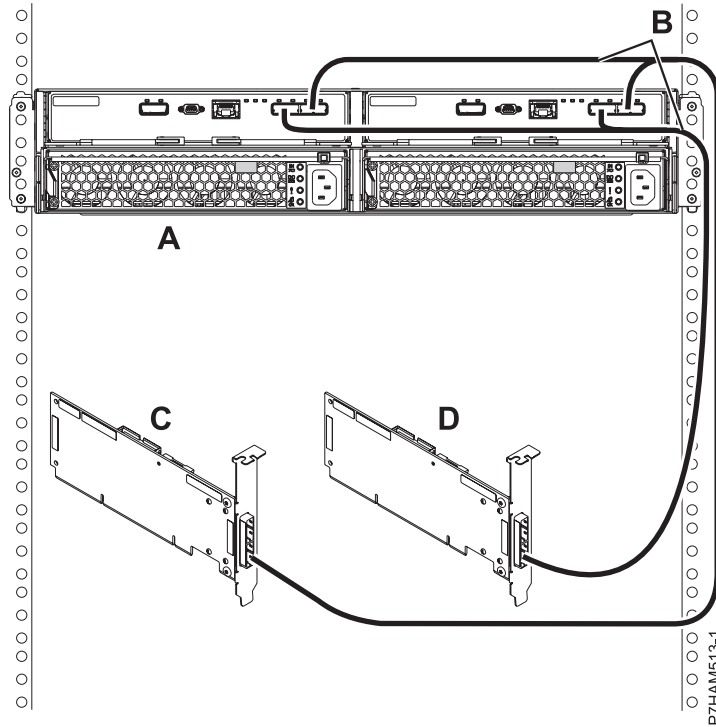

Figure 41. Mode 2 connection of one 58/87 disk drive enclosure by using YO cables to two independent SAS adapters
15. Perform the mode 2 connection of one 58/87 disk drive enclosure (**A**) by using YO cables (**B**) to two independent SAS adapters as shown in Figure 41 on page 72.